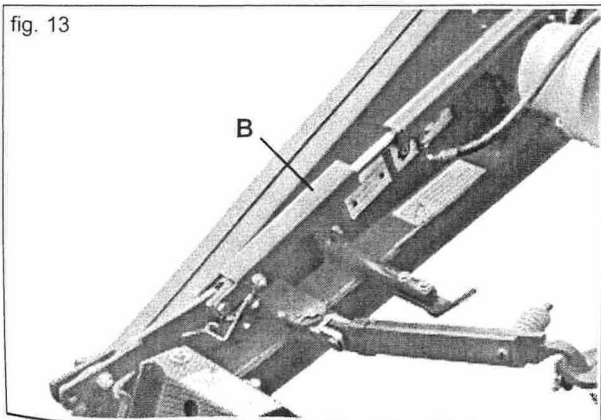

fig. 13
**CAUTION:** While working regularly check that the bracket (B) is still resting along the cylinder rod (Fig. 13).